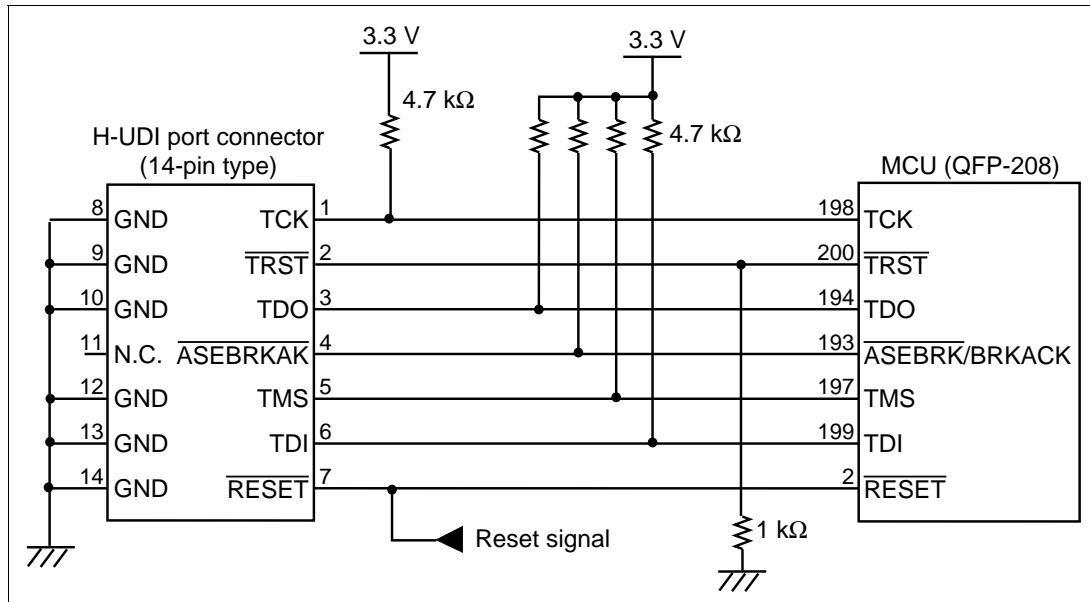

Figure 4.1 Recommended Circuit for Connection between the H-UDI Port Connector and the MCU
Figure 4.1 shows a recommended circuit between the H-UDI port connector and the MCU.
5. The resistance values shown in figure 4.1 are recommended.